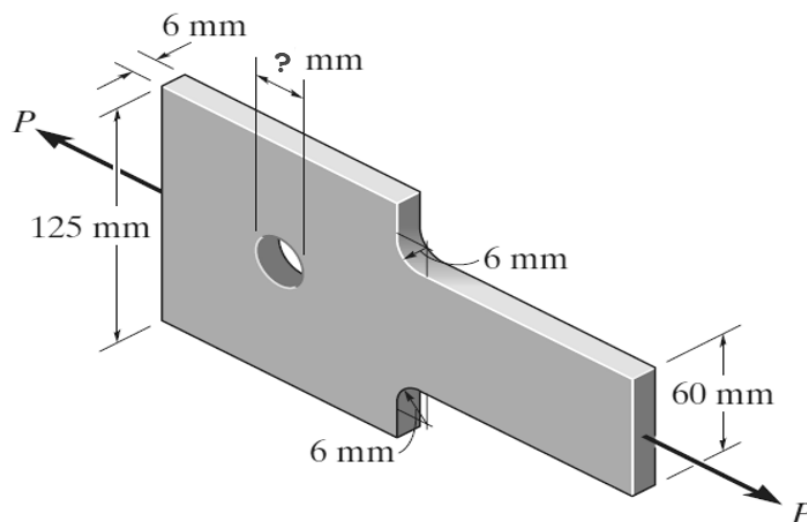

Figure 3 (a)
3. (a) Figure 3 (a) shows a steel plate with a hole in the middle of one section of the plate. The plate has two potential areas i.e. at the fillet and at the hole, for failure to initiate due to stress concentration effect.